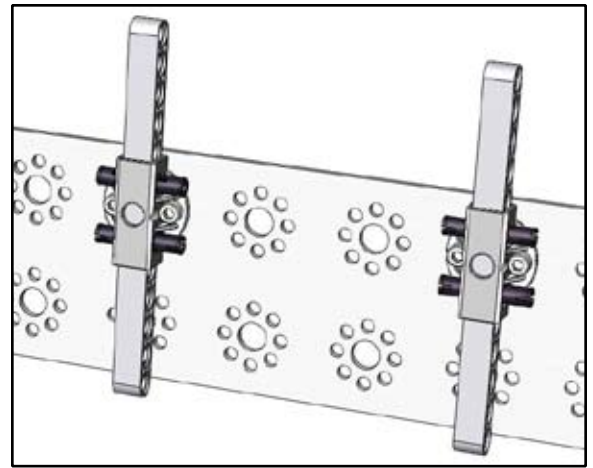

Figure G6
**Attaching the NXT and Controllers** – Place Hard-Point Connectors, Studless Technic Beams, and Long Connector Pegs where you want to attach the NXT component (Figure G6).